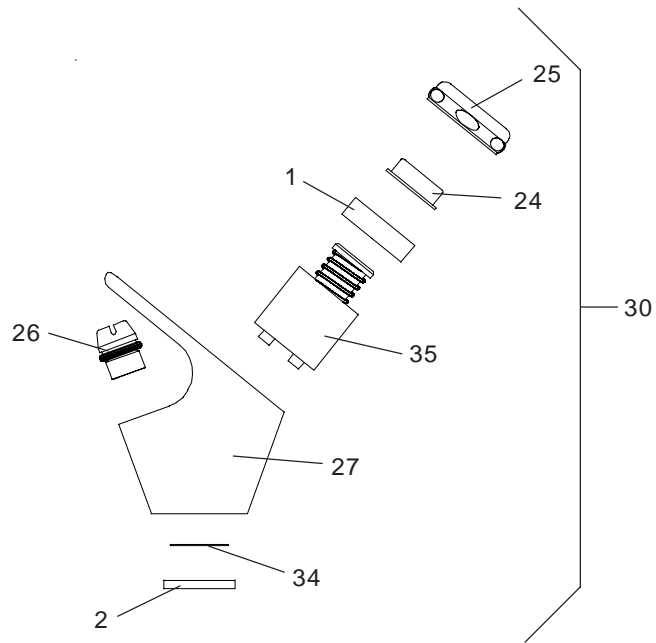

FIG. 5
This can be accomplished by depressing the cooler push button (See Fig. 5 - Item 24). Keep water running during the entire readjustment procedure.
STREAM HEIGHT ADJUSTMENT: Stream height is factory set at 45-50 PSI. If supply pressure varies greatly from this, remove items 24 and 25 (See figure 5) from bubbler assembly and adjust the screw on the regulator (Item 35). Clockwise adjustment will raise stream height and counterclockwise will lower the stream height. A stream height of 1-1/2" (38mm) is recommended.